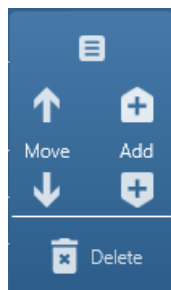

Figure 5-20 Device menu
- 13 Click on the device menu icon  to access the device menu (see Figure 5-20). You can move the device up or down the list, delete it, or add further devices above or below the selected device.